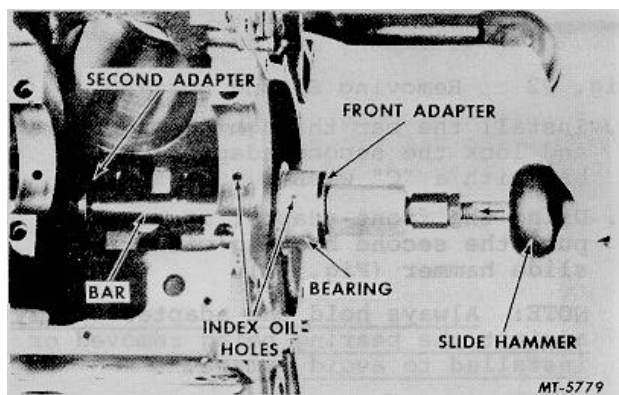

Fig. 75 Installing Front Bearing
7. Remove the bar and front adapter and position the new bearing with the chamfered side toward the case on the front adapter. Slide the bar into the case and through the second adapter serving as a pilot (Fig. 75).
8. Align the oil holes and drive in the front bearing (Fig. 75).